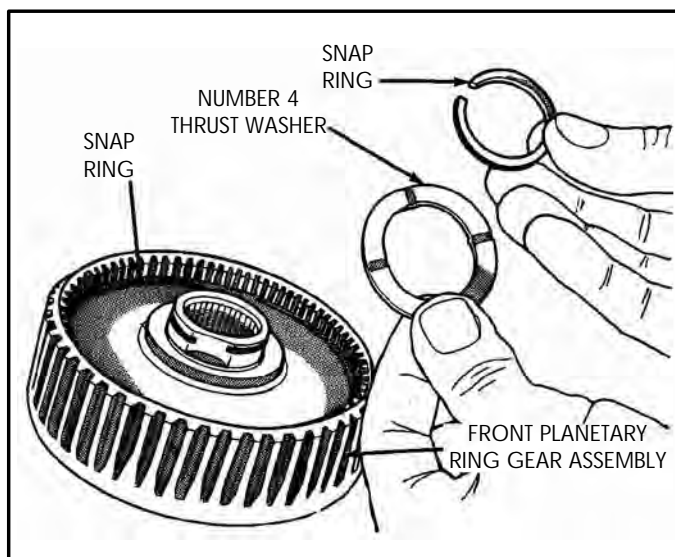

Figure 62
1. Remove and discard retaining snap ring, as shown in Figure 62.
2. Remove the number 4 thrust washer, as shown in Figure 62.
12. Install the number 4 thrust washer on assembly, as shown in Figure 62.
13. Install a *new* snap ring, as shown in Figure 62, and ensure that it is fully seated in groove.